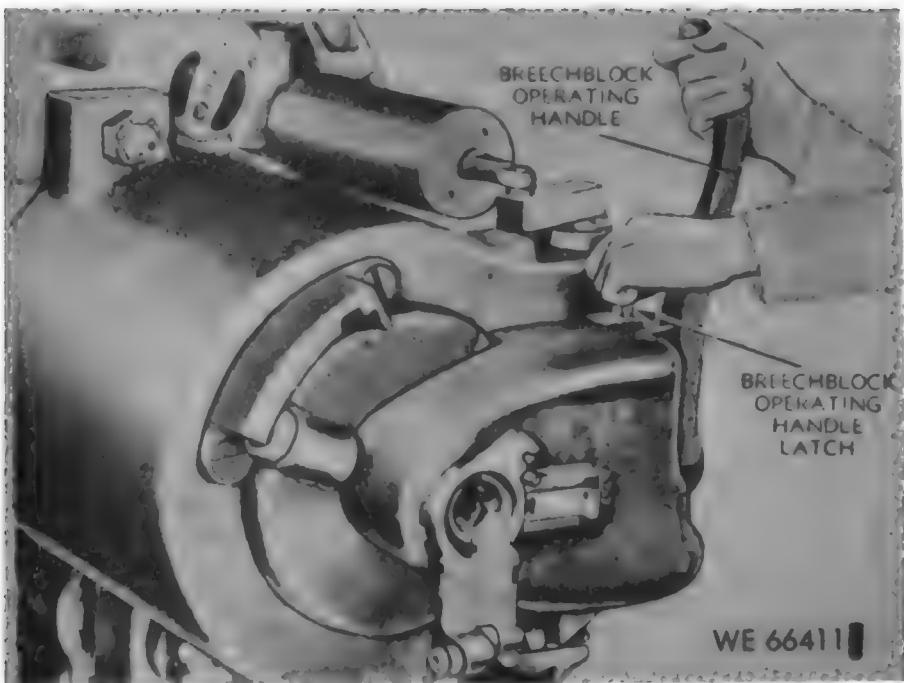
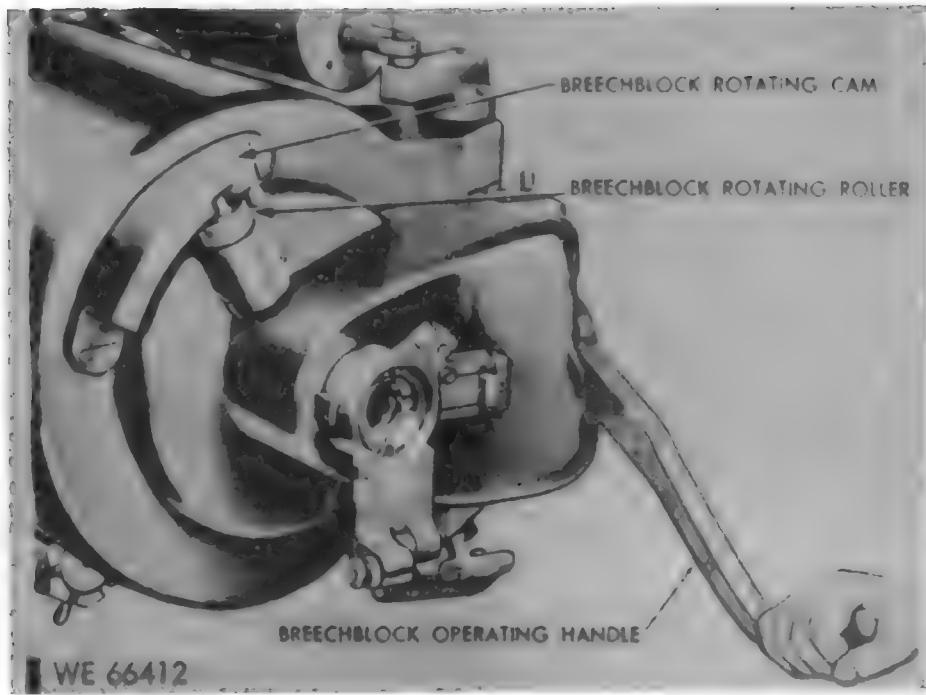

Figure 65. Releasing breechblock operating handle.
Figure 66. Opening breech.
(b) With the left hand, move the breechblock operating handle latch to the left (fig. 65); with the right hand, pull the breechblock operating handle backward and rotate downward as far as it will go (fig. 66). Then swing the breechblock operating handle to the right to open the breech (figs. 20 and 66).
(2) Close breech. Swing the breechblock operating handle horizontally to the left. When the breechblock rotating roller enters the breechblock rotating cam (fig. 66), swing the operating handle upward and forward until the operating handle latch locks the operating handle in its upright position (fig. 65).